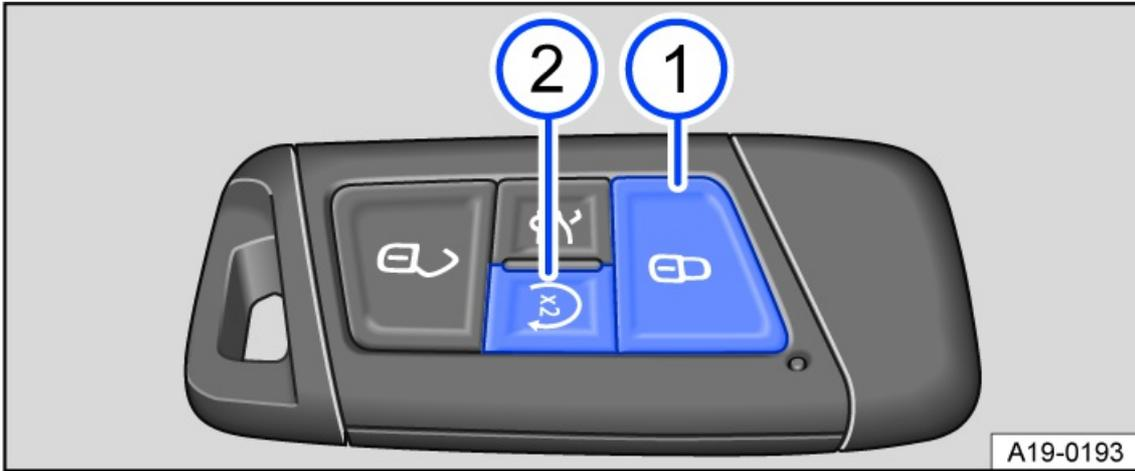

Fig. 91 On the remote control vehicle key: Button for remote start relay function.
1. Press the button  once *fig. 91*.
2. Press the  button twice *fig. 91*.
1. Press the  button on the remote control vehicle key to switch off the engine *fig. 91*.